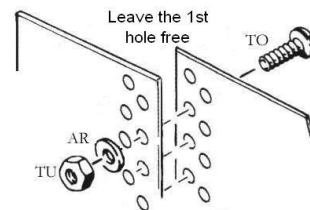

fig. 17
d) Put together the two ends of the steel wall so that you can close them with the screws in both holes (TO) (the screw head on the inner side of the pool), always leaving the washers (AR) and nuts (TU) on the outer side of the pool, fig. 17. (ref. 497 -. 500 magnum ref.).